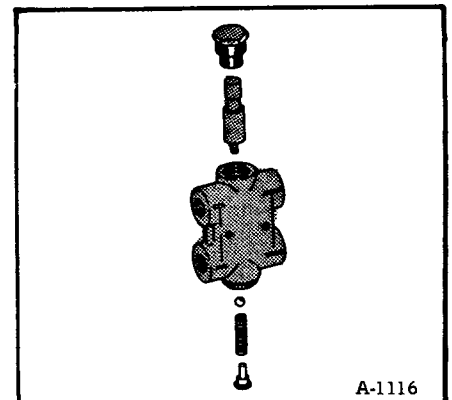

Fig. 12 Variable Speed Check Valve
- (1) Remove the small plug from the bottom port of the check valve (Fig. 12).
- (2) Remove the check spring and check ball.
- (3) Replace the small plug in the bottom port of the valve.